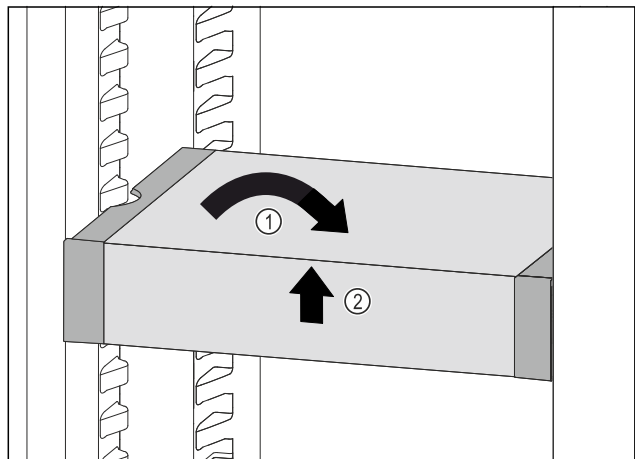

Fig. 127
- ▶ Set VarioSafe straight. Fig. 127 (1)
- ▶ Lift VarioSafe at the front. Fig. 127 (2)